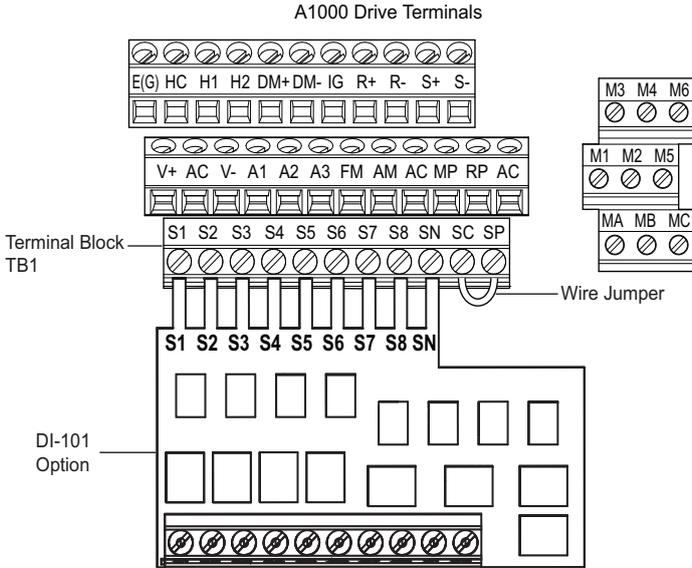

Figure 6 DI-101 Option to Drive Connection
4. Insert the DI-101 option (B) into the A1000 drive control terminals TB1, S1 to S8 and SN at the insertion point (E). Refer to Figure 6 for the proper placement of the option terminals into the drive TB1 terminals. Secure the DI-101 option by tightening the TB1 terminals S1 to S8 and SN. Refer to Wire Gauges, Tightening Torques, and Crimp Terminals on page 20 to confirm that the proper tightening torque is applied to each terminal.